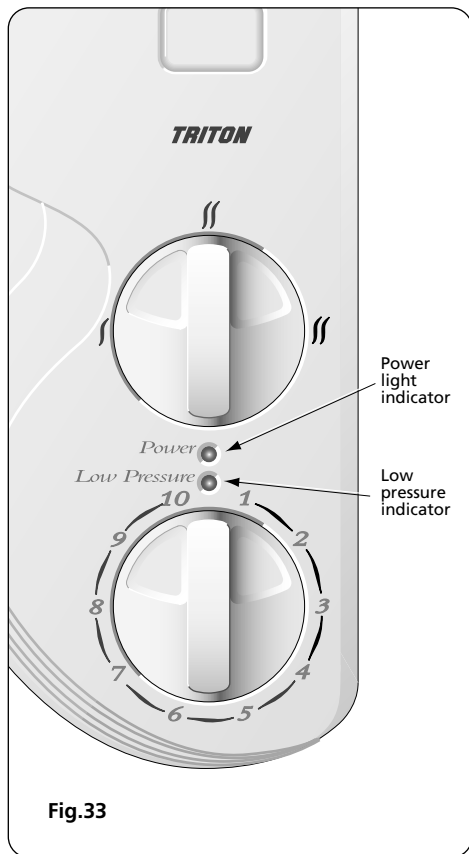

Fig.33
**Low pressure indicator (fig.33)**
**Power light indicator (fig.33)**